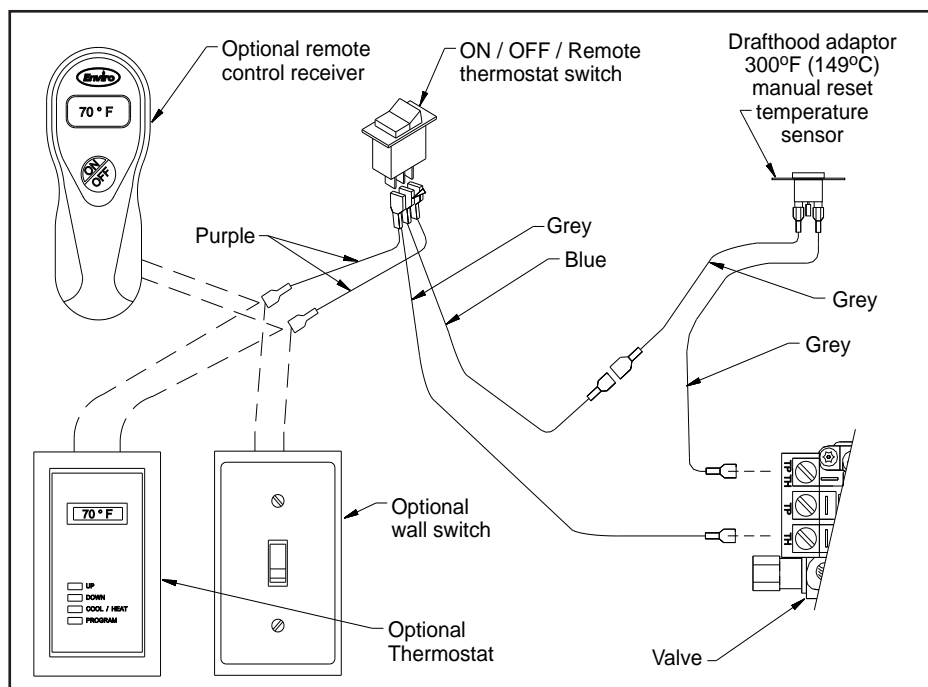

Figure 37: Wiring Diagram for Electrical Connection.
4. Being careful not to run any wiring tight across metal edges; connect them to the valve and "ON/OFF" switch (refer to Figure 37).
2. Disconnect the spill switch wires from the valve (see Figures 37).